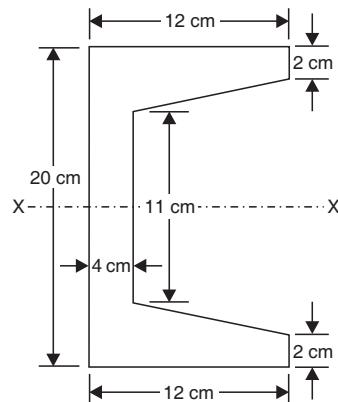

Fig. 8.38
7. Find  $I_{xx}$  of the channel section shown in Fig. 8.38.